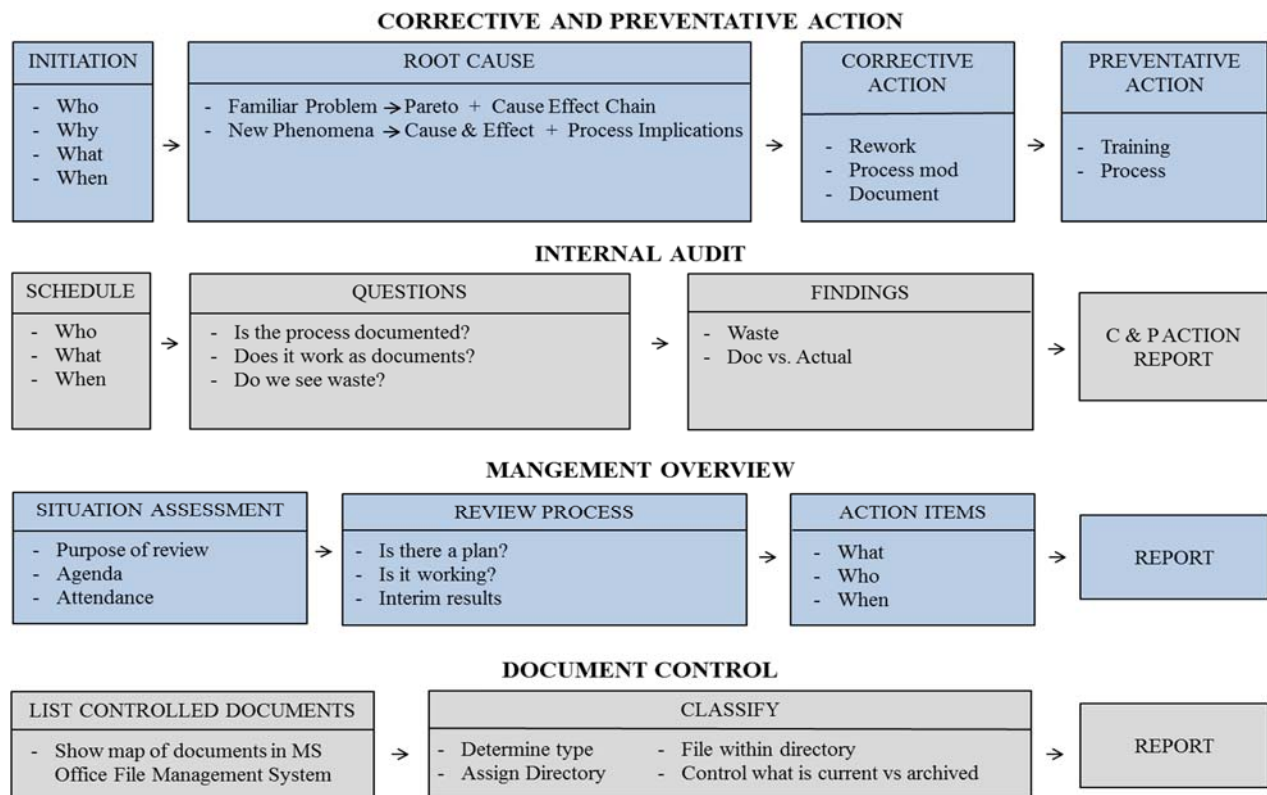

Figure 1: Continuous Improvement System Diagram
The Na Ali'i team is committed to providing the highest degree of performance and product quality through continuous assessment and review of compliance with written standards, processes, and policies. Management overview assures management awareness of and support for the Na Ali'i Quality Assurance Surveillance Plan (QASP). Quality Control (QC) is maintained through rigorous inspection and reporting of deliverables' compliance with the Na Ali'i Quality Control Plan (QCP). Figure 1 illustrates the Na Ali'i continuous improvement process that encompasses all aspects of our QASP.
The corrective action process flow is shown in Figure 1.
Internal audits provide confirmation that the Na Ali'i quality system is continuing to function as intended and serve as an instrument of continuous improvement. The internal audit process flow is shown in Figure 1.
Management oversight ensures management awareness of and support for the Na Ali'i Quality System. The management oversight process flow is shown in Figure 1.